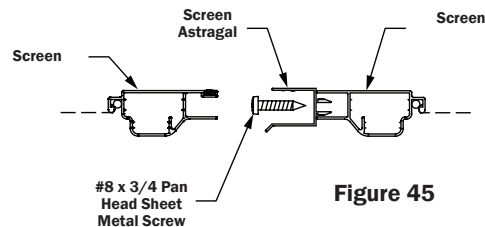

Figure 45
50. Holding the astragal in place on the edge of the screen, drill an 1/8" hole into the interior screen wall. After drilling the first hole, screw the astragal to the screen using a #8 x 3/4" pan head screw to hold it in place while drilling the rest of the holes (Fig. 45). Finish installing the remaining screws.
51. Attach screen stop in the head screen channel at the center of the door using the provided #8 x 3/4" pan head sheet metal screw (Fig. 45).